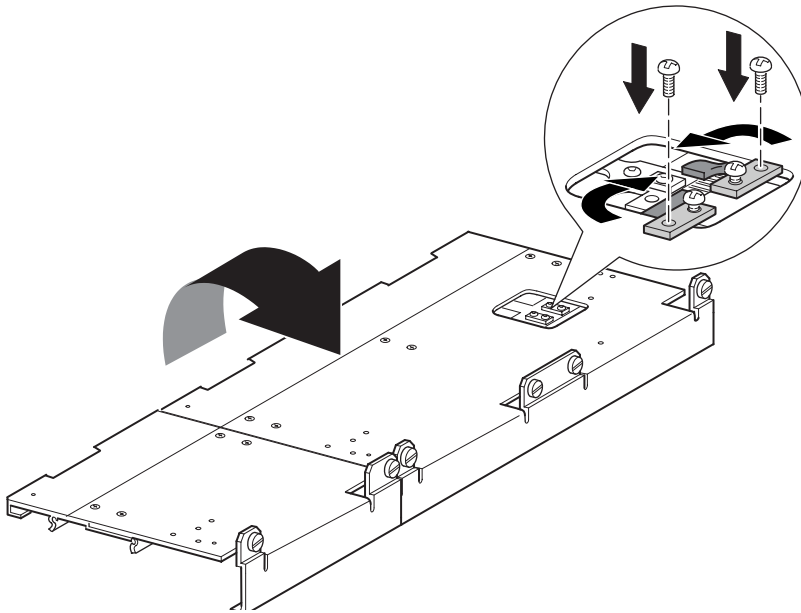

Figure 22 Timing belt at the belt block
7. Place the timing belt ends on the belt block (see Figure 22).